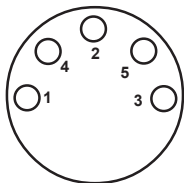

Figure 6 – 5-pin DIN socket
The 5-pin DIN socket on the TP1(S) probe provides the connections shown in Figure 6 and Table 1 below to the probe interface.